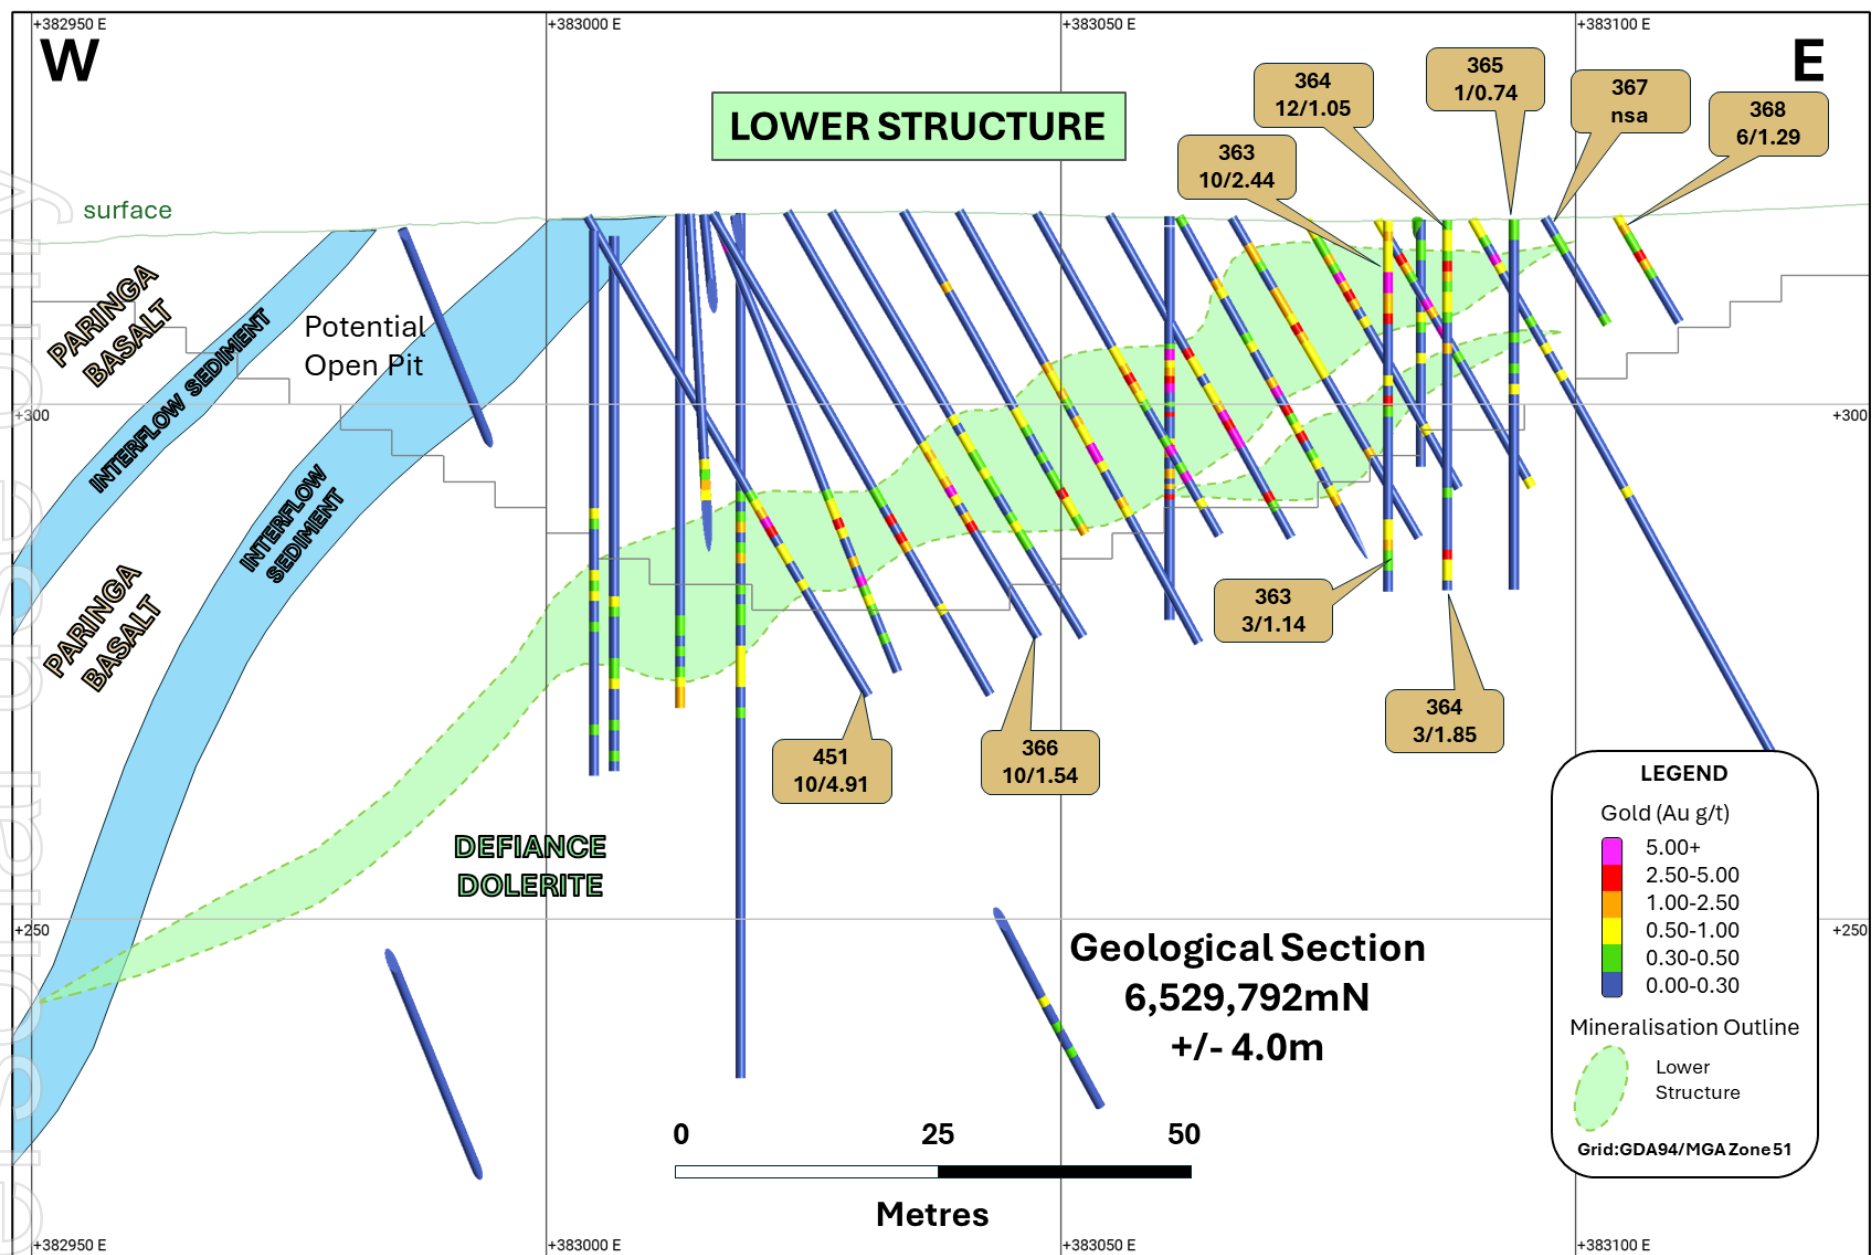

Figure 5: Section 6,529,792mN (looking north +/- 4m) illustrating the results reported today (gold call-outs).
- **Lower Structure – Figure 5** section 6,529,792mN highlighting today's results which sit within the current development footprint/mine design.